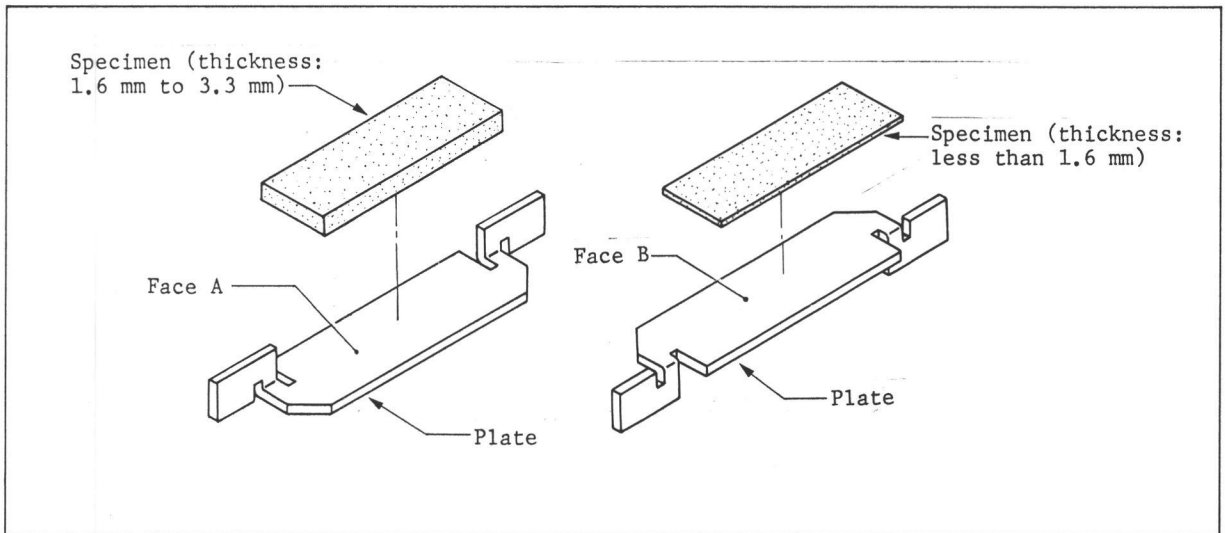

Fig. 8
3. Prepare a specimen measuring less than 13.5 \times 4.5 \times 3.3 (thick) mm. If the specimen thickness is between 1.6 mm and 3.3 mm, bond the specimen to face A of the plate with conductive adhesive; and if the thickness is less than 1.6 mm, to face B (Fig. 8).